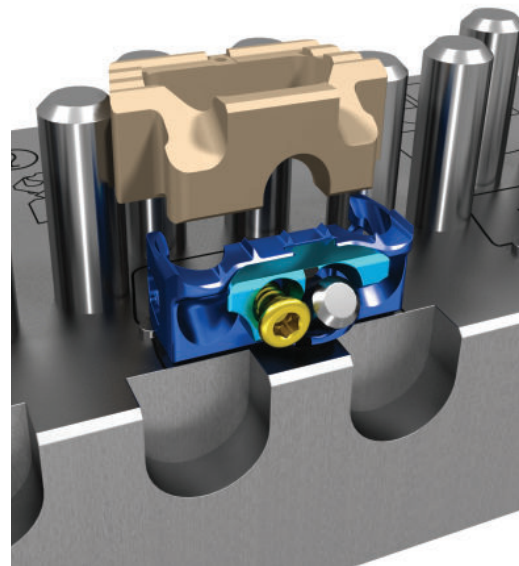

Figure 8
- Before connecting the spacer to the plate, ensure that the spacer notches for the lateral screws are facing upward. Place the spacer into the implant assembly block behind the plate between the four alignment pins (Figure 8).